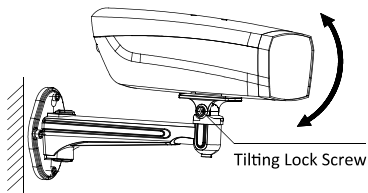

Figure 2-8 Adjust the Tilting Angle
11. Loosen the tilting lock screw. You can adjust the tilting angle of the camera. As shown in Figure 2-8.